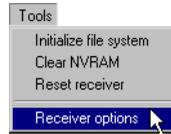

Figure 4-8. Tools->Receiver Options
3. Click **Tools->Receiver Options** (Figure 4-8).